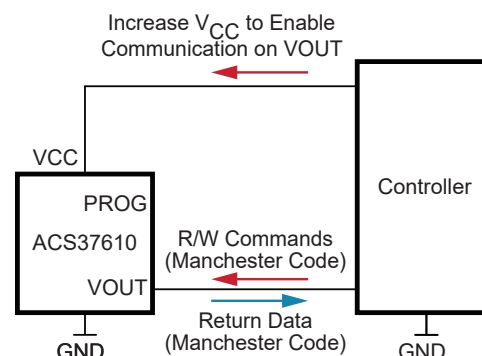

Figure 10: Programming Connection—Mode 1
**Mode 1, Programming on VOUT pin (see Figure 10):** To enable bidirectional programming on VOUT, voltage is raised on  $V_{CC}$  ( $V_{OVDE}$ ) for at least  $t_{OVDE}$ , followed by the access code on VOUT. If the COM\_LOCK bit is set (value = 1), bidirectional programming on VOUT is disabled. If the COM\_LOCK bit is not set (value = 0), there is no timeout limit to send the access code as long as  $V_{CC}$  stays above  $V_{OVDE}$  for at least  $t_{OVDE}$ . To ensure a reset of the Manchester state machine occurs, the start of any Manchester command should begin by holding the output low for  $t_{BIT}$ . If an incorrect access code is sent, VOUT remains in the typical analog mode (responds to magnetic stimulus) and the device remains locked for communication on VOUT until a power reset occurs.